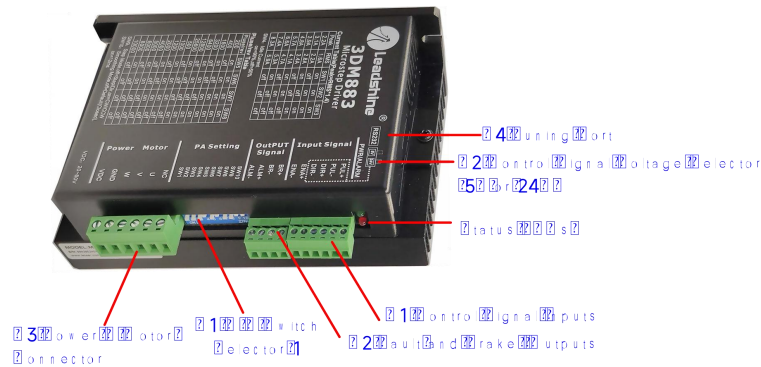

Figure 2 Connectors, DIP switches, and LED locations
PUL+ (CW+)	Pulse and Direction Connection: (1) Optically isolated, high level 4.5-5V or 24V, low voltage 0-0.5V (2) Maximum 400 KHz input frequency (3) The width of PUL signal is at least 1.2μs, duty cycle is recommended 50% (4) Single pulse (step & direction) or double pulse (CW/CCW) is set by DIP Switch SW9 (5) DIR signal requires advance PUL signal minimum 5 μs in single pulse mode (6) The factory setting of control signal voltage is 24V, must need to set S2 (figure 2) if it is 5V
- (1) ENA signal is no-connected as default;
- (2) Control signal amplitude is 24 V as default. If it is 12 V, please set the S2 (Figure 2) selector switch to 5 V first, then connect 1K Ω resistor; If it is 5V, please set the S2 to 5V.
The second 1-bit selector is located on the top (S2 in figure 2), used to configure the voltage of control signals. For the safety of optically coupled, the factory setting is 24V, which no need to connect 2K resistors like the old drives, making it easier to use. When the voltage of the control signal is 5V, the S2 must be set to 5V, otherwise, the motor won't work.